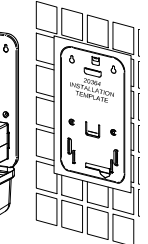
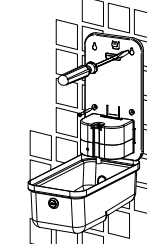

Fig.4
Fig.5
- 4.6 Hang dispenser housing (Fig.4) on the two (2) screws (step 4.4, above) and install two (2) flat head screws (#8 x 1-1/2 self tapping, by others) into bottom two (2) plastic anchors. Tighten all screws (Fig.5).